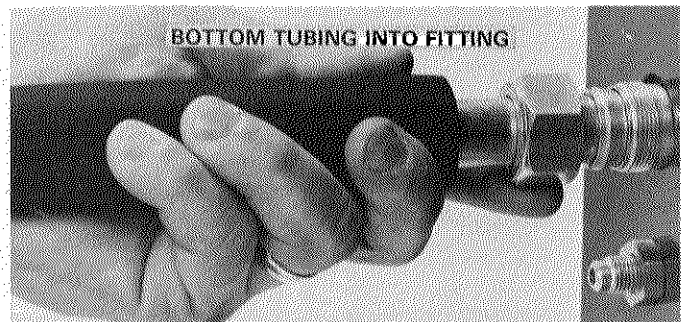

FIGURE 6
Step 4 - (Figure 6) insert the tube end into fitting body until it bottoms. Push the ferrule into place and draw the nut up snug with a wrench (until increase in torque is felt) while holding the tube in bottomed position.